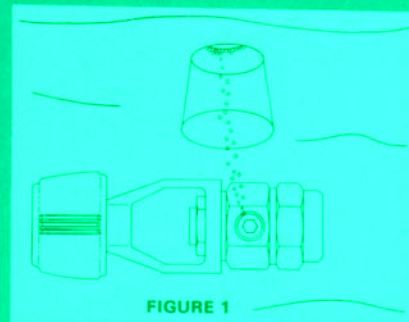

FIGURE 1
3. Bleed Air Test—a small stream of bubbles should be escaping from the one-way check valve only. Number and size of bubbles may vary but the amount of escaping bubbles should be equal to 13-17 c.c. per minute. To check this, invert a 1 oz. container over the escaping bubbles under water (Figure 1)\*. The water displaced will slowly empty the glass. It should take approximately two minutes to completely empty a 1 oz. container. If